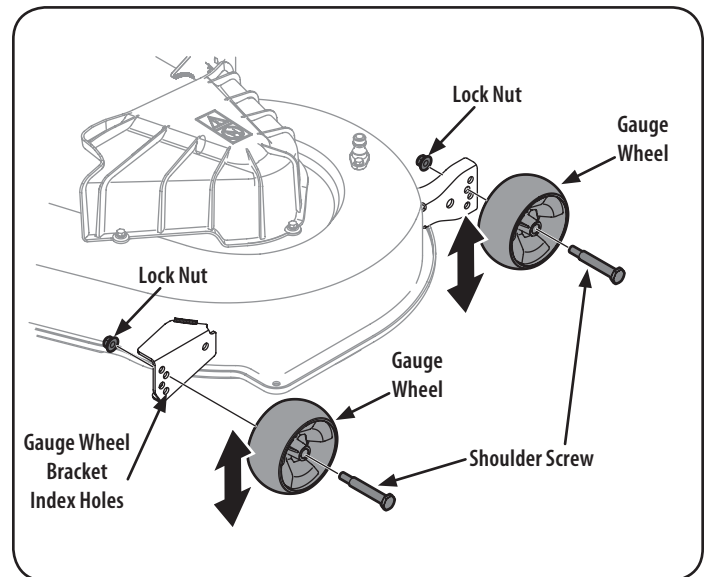

Figure 28
2. Remove the flange lock nut securing the front gauge wheel shoulder bolt to the deck. Remove the gauge wheel and shoulder bolt. Refer to Figure 28.